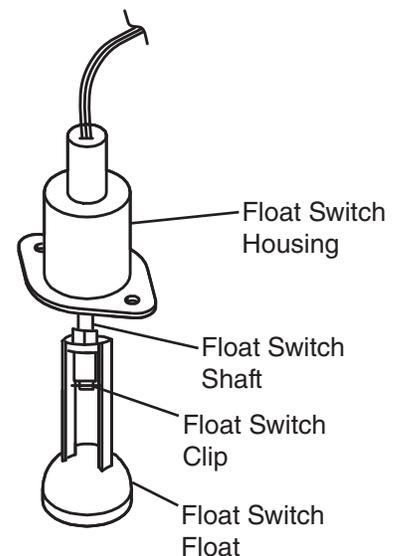

Fig. 4
- 5) Remove the retainer clip from FS shaft, then remove the float. Be careful not to damage or lose the retaining clip when removing it. See Fig. 4.